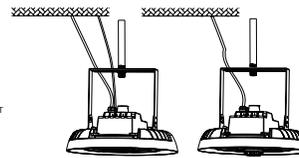

Figure 9
2. Insert 1/2" NTP stem into the bracket hole (Figure 9).